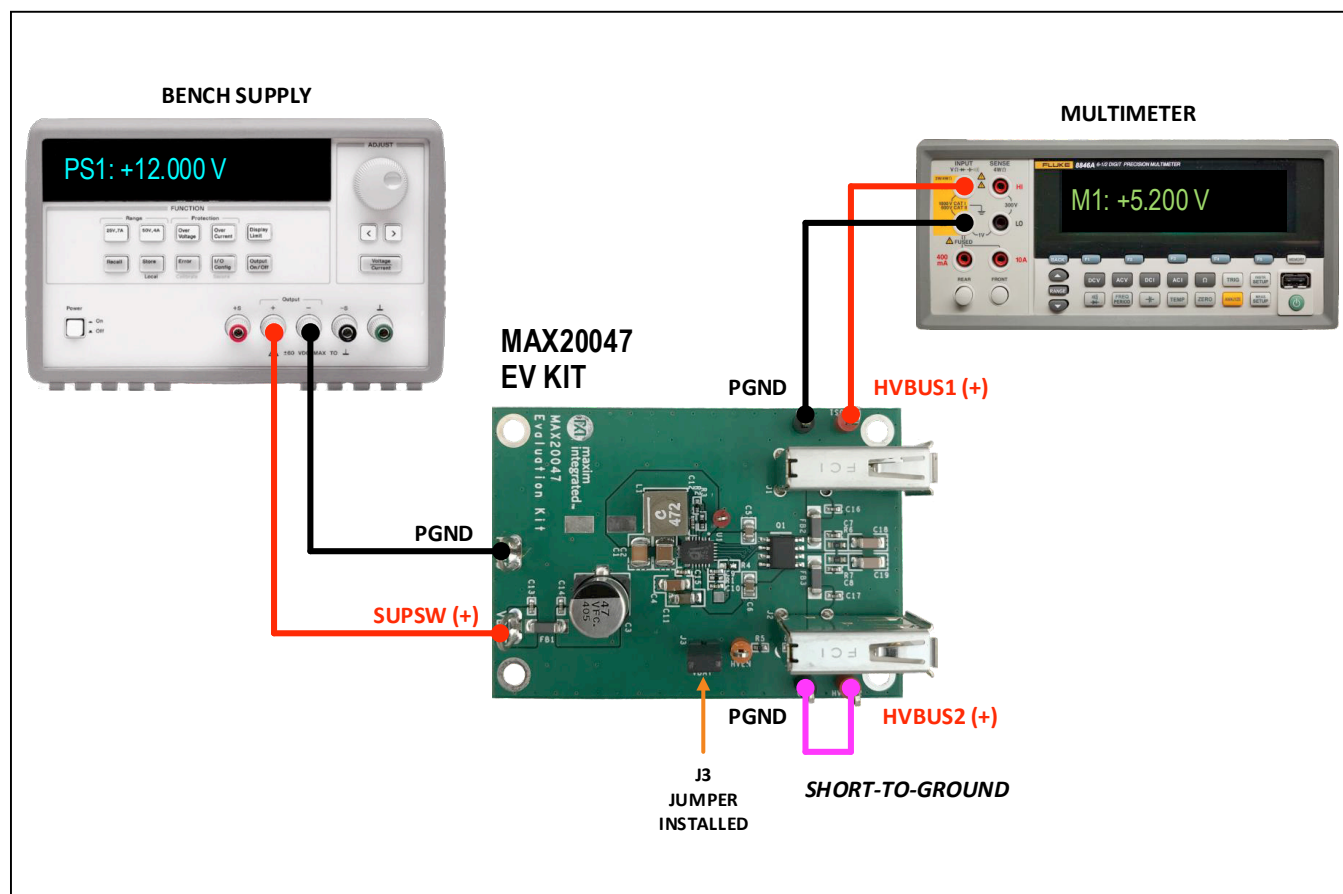

Figure 6. Test Setup for Verifying VBUS Short-to-Ground Protection
The IC independently protects the HVBUS1/HVBUS2 channels against shorts to ground. Figure 6 shows the test setup to evaluate VBUS short-to-ground fault protection.
- 1) Connect the equipment (see Figure 6), set PS1 to 12.000V, and enable the power-supply output.